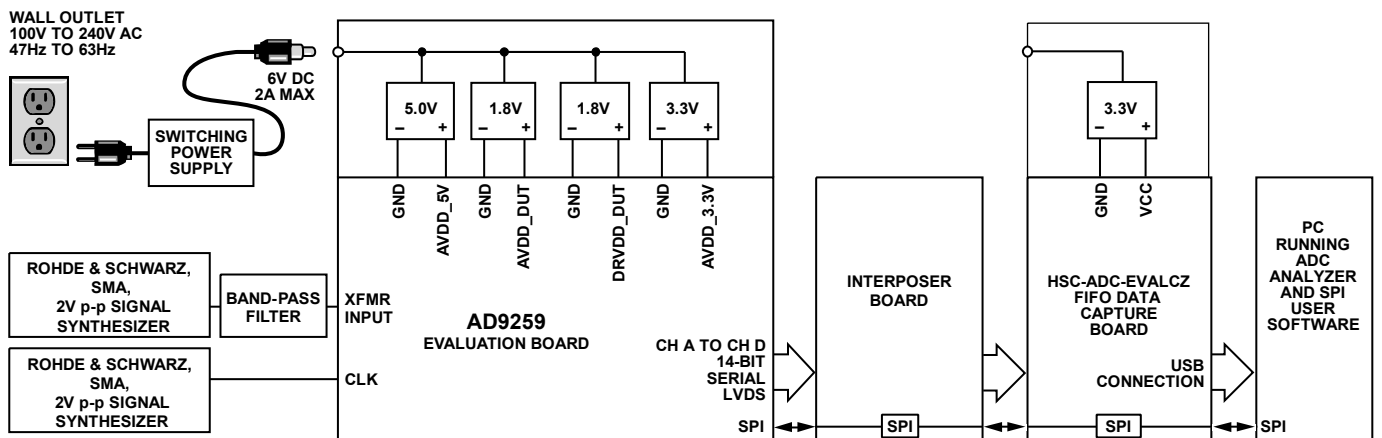
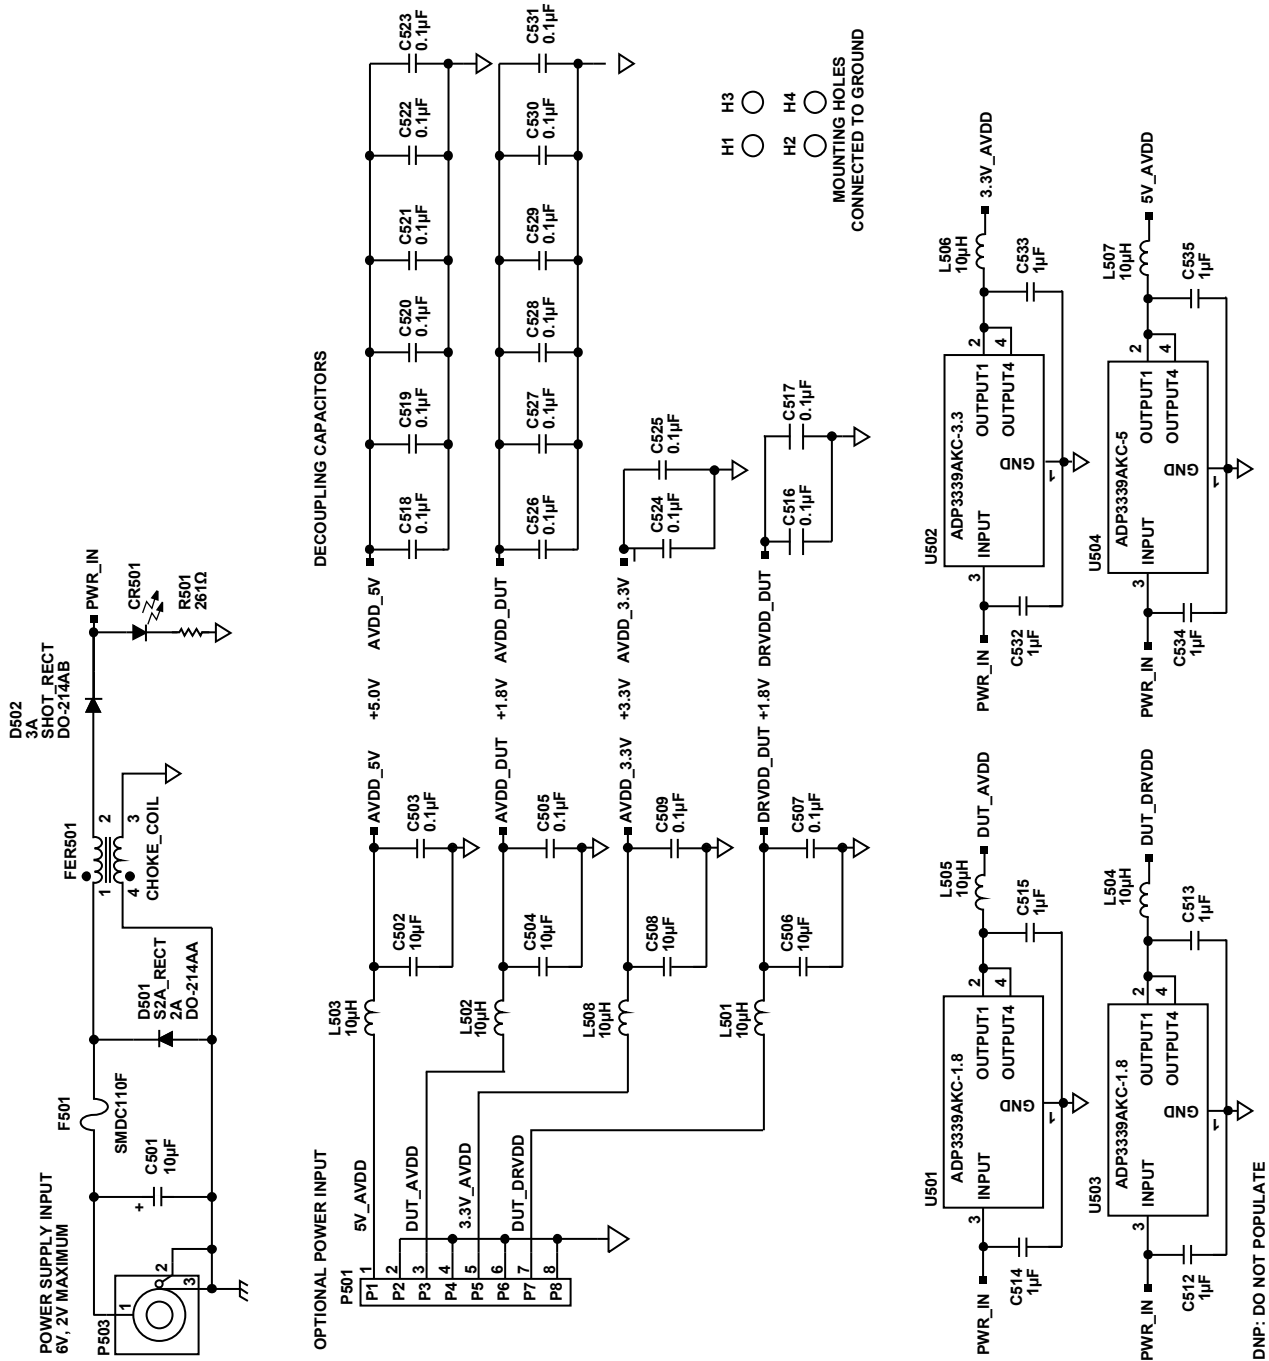

Figure 60. Evaluation Board Connection
Figure 66. Evaluation Board Schematic, Power Supply Inputs
The AD9259 evaluation board provides all of the support circuitry required to operate the ADC in its various modes and configurations. The converter can be driven differentially using a transformer (default) or a AD8332 driver. The ADC can also be driven in a single-ended fashion. Separate power pins are provided to isolate the DUT from the drive circuitry of the AD8332. Each input configuration can be selected by changing the connection of various jumpers (see Figure 62 to Figure 66). Figure 60 shows the typical bench characterization setup used to evaluate the ac performance of the AD9259. It is critical that the signal sources used for the analog input and clock have very low phase noise (<1 ps rms jitter) to realize the optimum performance of the converter. Proper filtering of the analog input signal to remove harmonics and lower the integrated or broadband noise at the input is also necessary to achieve the specified noise performance.
- **D + x, D - x:** If an alternative data capture method to the setup shown in Figure 60 is used, optional receiver terminations, R206 to R211, can be installed next to the high speed backplane connector.